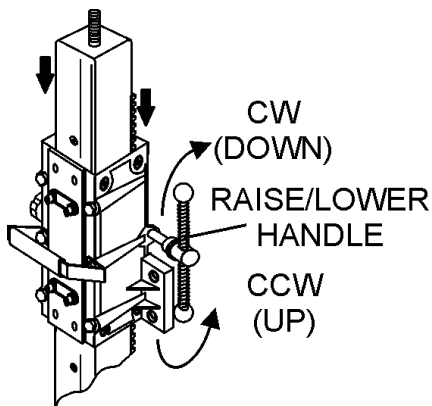
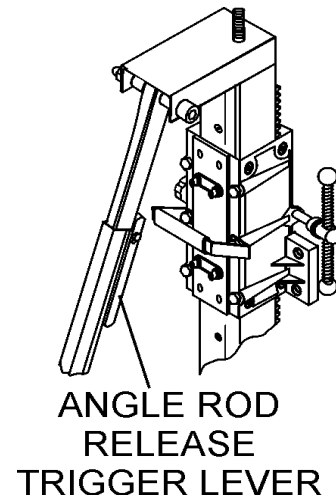

Figure 8. Cradle Raise/Lower Handle
Figure 9. Adjustment Bar Placement
6. Once the cradle assembly makes contact with the rack, turn the cradle raise/lower handle (Figure 8) clockwise so that the cradle moves in a downward position. Continue turning handle until the desired position has been reached.
7. Once the cradle has been mounted onto the column rack, align the top plate (Figure 9) on the adjustment bar with the stud on the top of the column. It may be necessary to squeeze the trigger release (Figure 8) mechanism on the adjustment bar to raise or lower the adjustment bar.